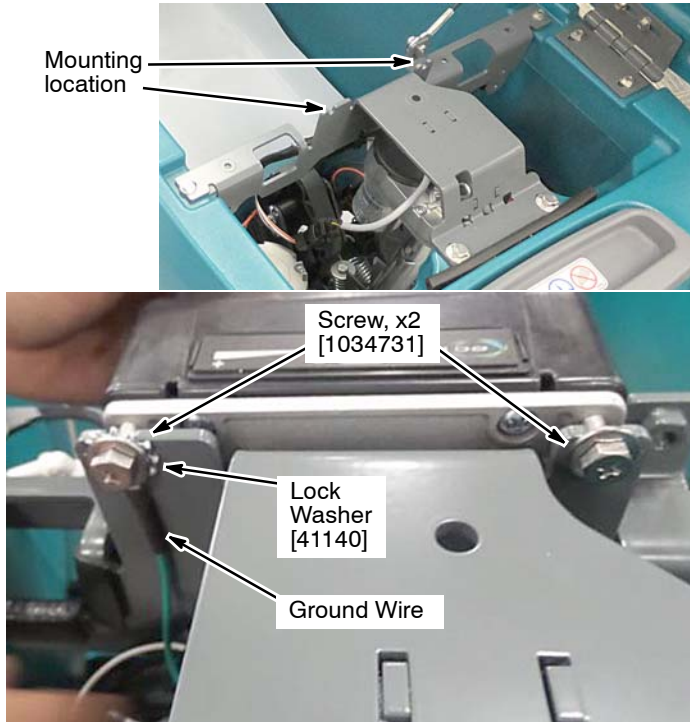

Fig. 6
- Mount the ec- H2O module to the machine bracket using hardware as shown (Figure 6). Connect ground wire using lock washer as shown.